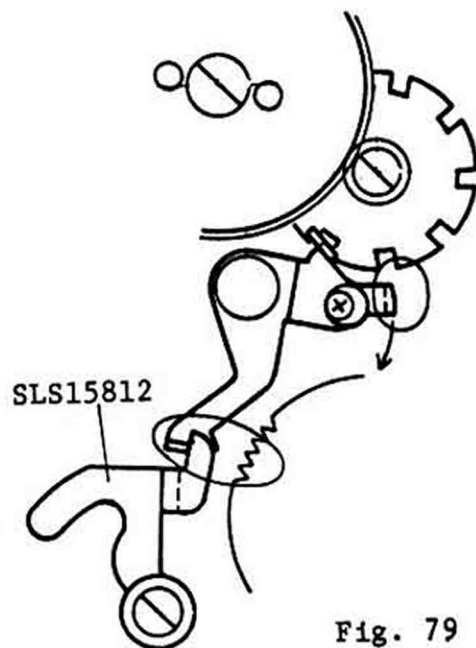

Fig. 79
- 1) When opening the back cover, both ends of the SLS15842 Stop lever are detached from the SLS1541T1 Dividing device and from the SLS14811 F.clutch wheel by the SLS15812 Zero reset lever moving as shown in Fig. 79.